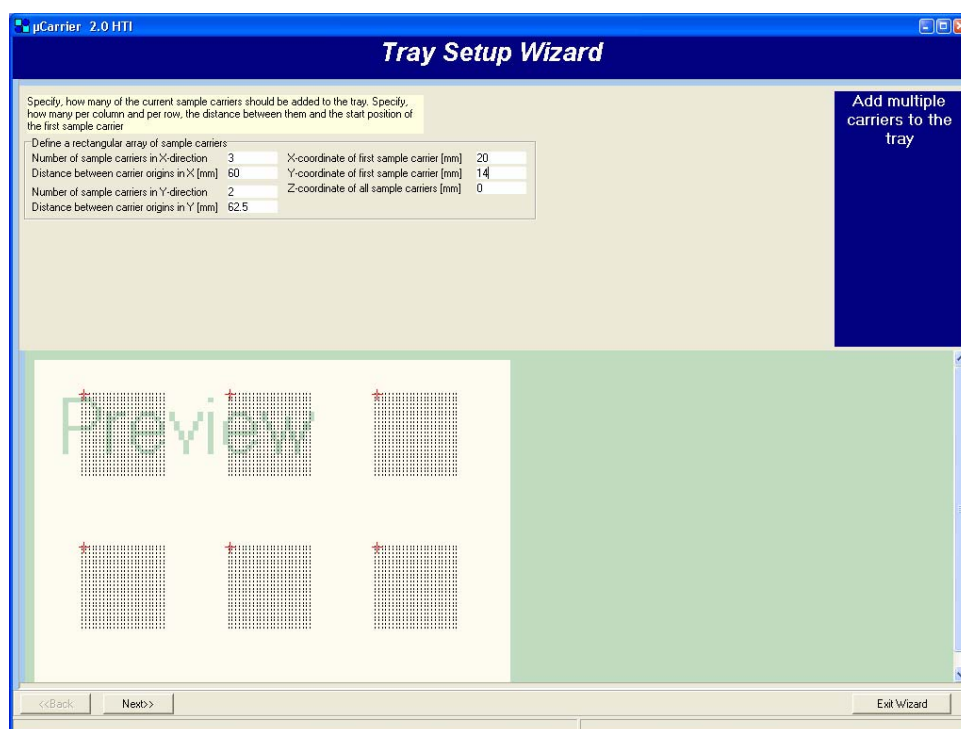

FIGURE 2-31 Tray Setup Wizard – 6 Sample Carriers added
- e) If you want to place multiple carriers (of the same type) press the right mouse button, and then select the **Add multiple carriers ..** option (FIGURE 2-31). Enter the appropriate coordinates of your tray setup, the *Preview* box will be updated according to the current settings. Choose **Next** to add another carrier or finish the wizard.